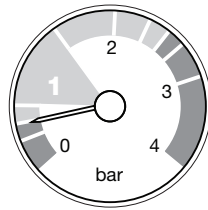

Fig. 2
4. The minimum pressure for correct operation is 0.5. If the pressure falls below 0.5, this may indicate a leak on the central heating system (Fig. 2). Error Code E1 19 will be shown on the display.